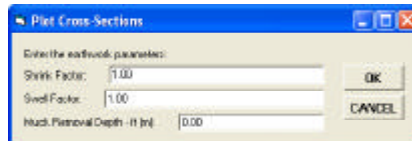

Figure 17
- Enter the appropriate values and from Figure 17, click at the: